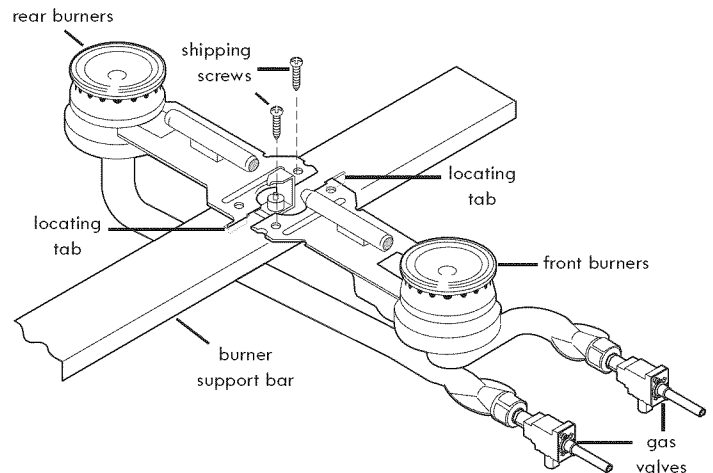

Fig. 1
2. Tilt burner so that the locating tab will slide into slot on the support bar. Make sure burners are properly seated on support bar and are level (See Fig. 1).